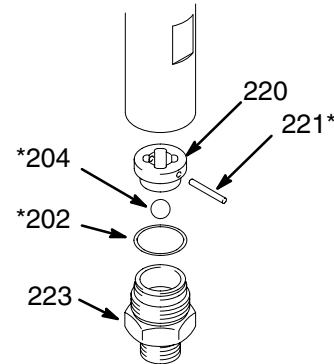

Fig. 25 02396
1. Unscrew the intake valve (223) and remove all parts. See Fig. 25.